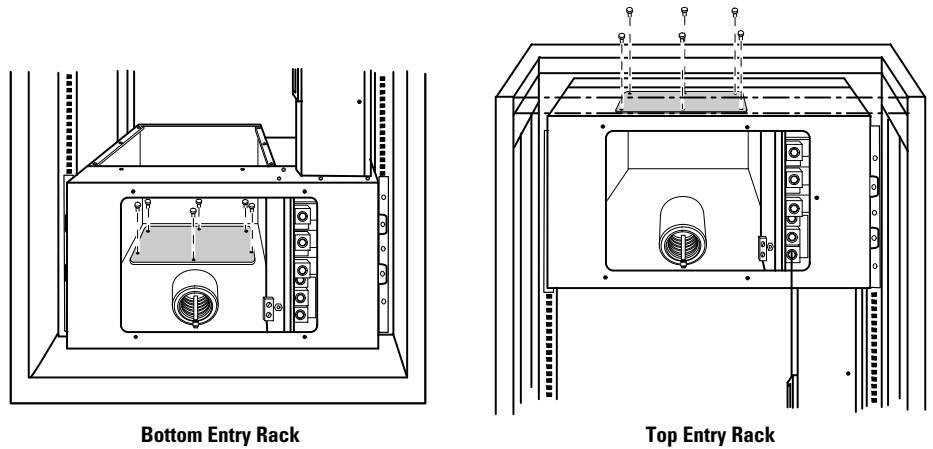

Figure 33. Removing the Conduit Landing Plate
3. Remove the six screws on the conduit landing plate and retain. Remove the plate and retain. See Figure 33.